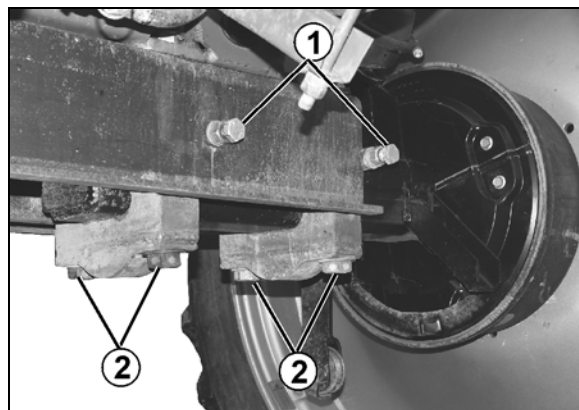

Fig. 135
4. Undo the clamping screws (Fig. 135/1.2).
6. To align the axle, first tighten screws (Fig. 135/1) to a torque of 210 Nm.
7. Then tighten screws (Fig. 135/2) to a torque of 750 Nm.